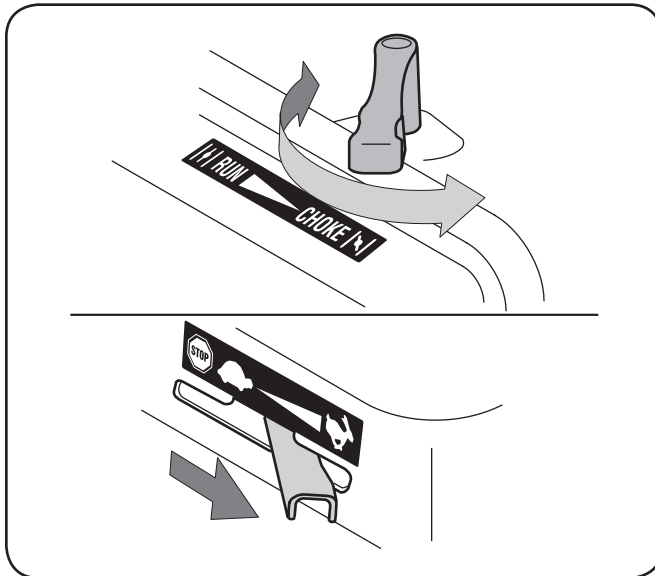

Figure 5-1
3. Move choke control lever to CHOKE position, if equipped. See Fig. 5-1. If the unit has a primer, prime the motor as instructed in the Engine Operator's Manual.
4. Move throttle control lever to FAST position (if equipped). See Fig. 5-1.